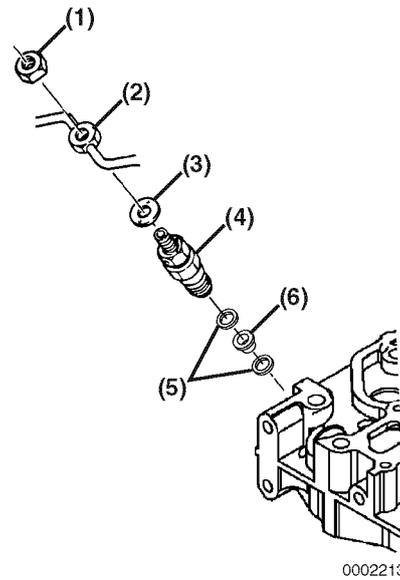

Figure 7-36
1. Insert the nozzle gaskets (**Figure 7-36, (5)**) and nozzle protector (**Figure 7-36, (6)**) in the cylinder head.
2. Reinstall the fuel injector (**Figure 7-36, (4)**) in the cylinder head and tighten to specification.
3. Reinstall new copper washers (**Figure 7-36, (3)**), high-pressure and return fuel lines (**Figure 7-36, (2)**). *See Installation of High-Pressure Fuel Injection Lines on page 7-11 and Installation of Fuel Return Line on page 7-12.* Tighten fuel line nuts (**Figure 7-36, (1)**) to specifications.